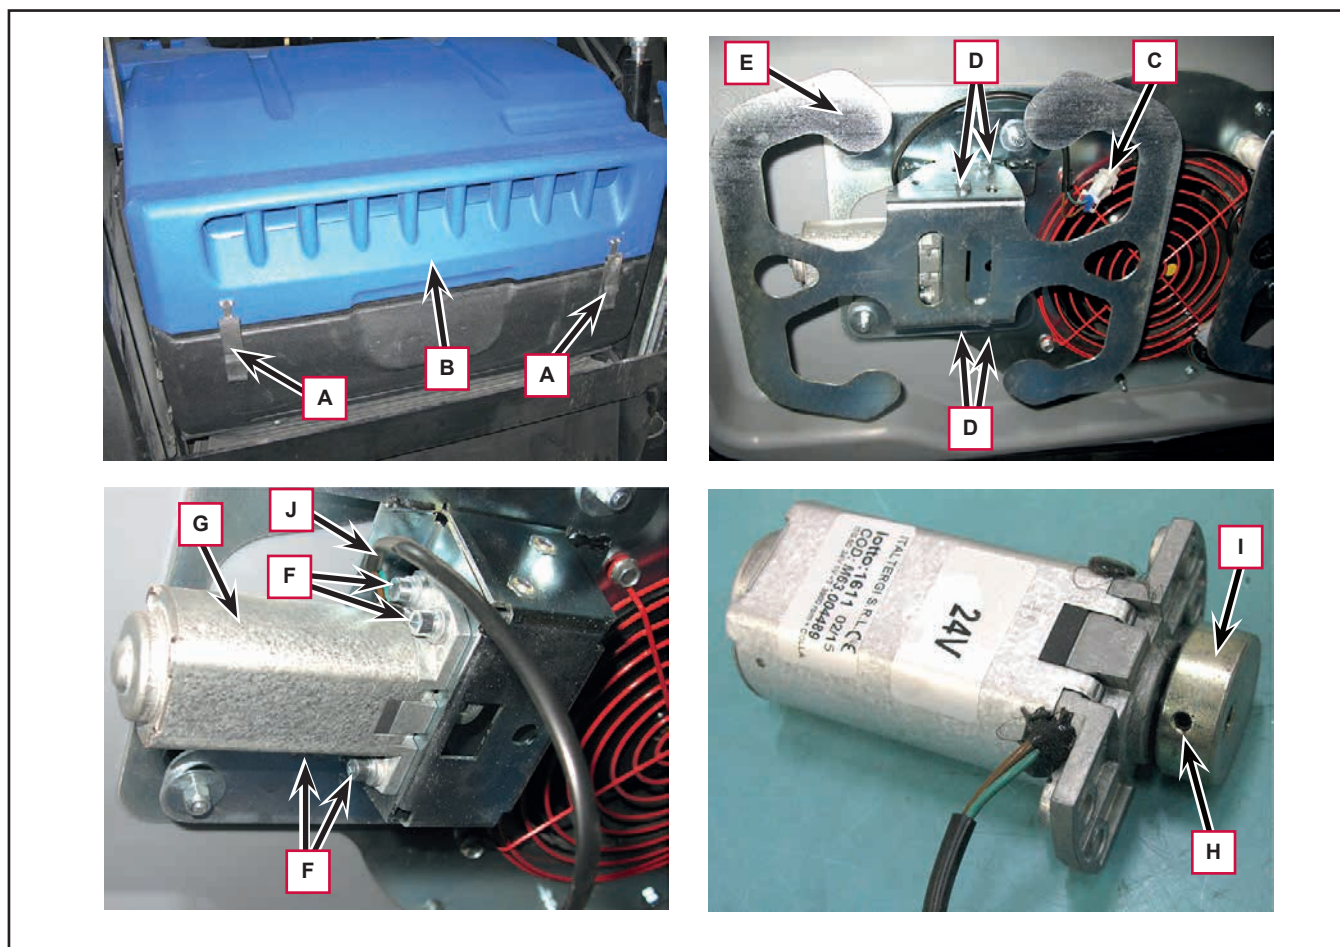

Figure 7
5. Release the fasteners (A, Figure 7) then lift the vacuum system cover hood (B) all the way.
6. Working on the filter shaker assembly requiring removal, disconnect the electrical connection (C) of the filter shaker motor.
7. Unscrew the four screws (D) and remove the filter shaker (E).
8. Unscrew the four screws (F) and remove the filter shaker motor (G).
9. If necessary, remove the grub screw from the hole (H) on the workbench, then remove the eccentric cylinder (I) from the filter shaker motor.